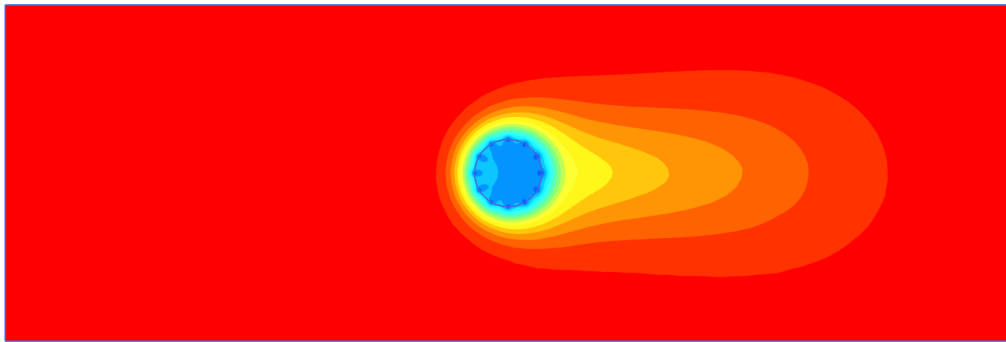

Figure 19–5: Temperature distribution for transient phase
- 3 Figure 19–5 \(p. 293\) shows the spatial distribution of the temperature for transient calculation in the final step. Note that the element contours have been switched off to better show that the temperature of the soil inside the tunnel is below freezing.